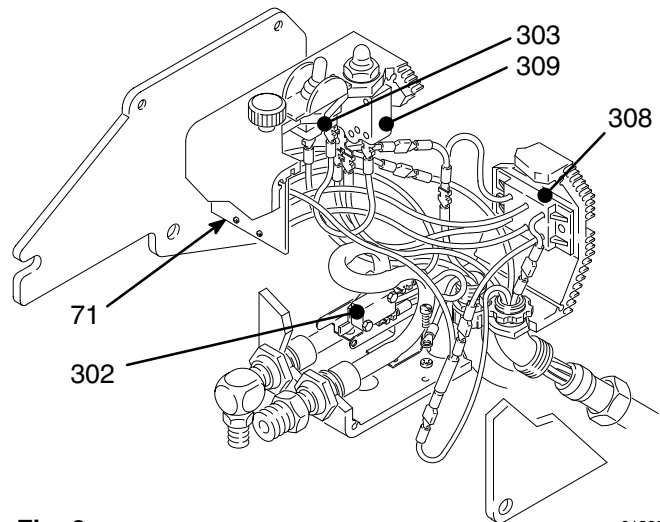

Fig. 9
4. Disconnect the two leads going from the motor to the bridge (308). See Fig. 9.